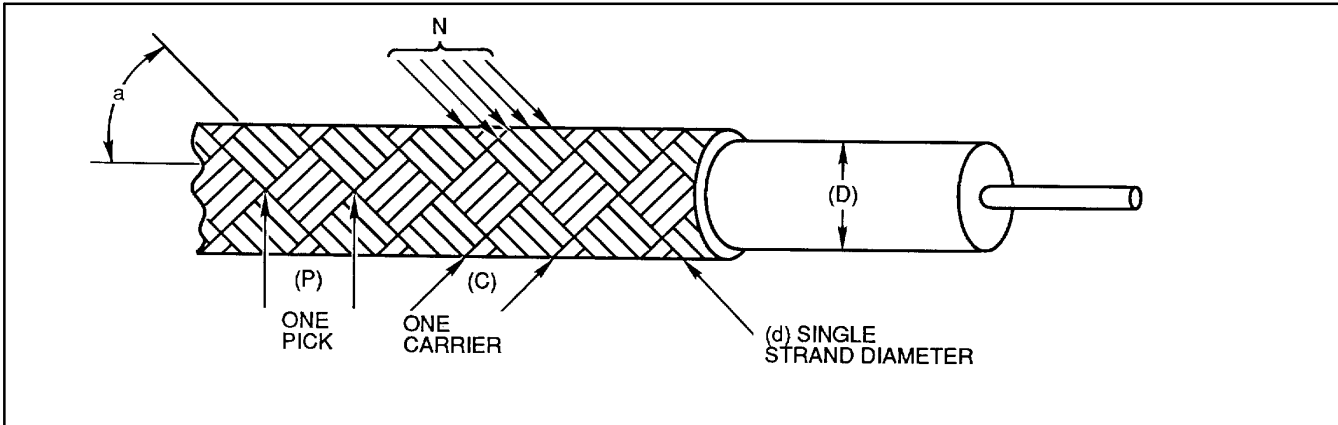

Figure 3. Shield-Constructional Details
25. **Number of Ends Per Carrier.** Generally four to seven are used per carrier. The number of ends effect attenuation and push back characteristics (Figure 3, Item N).
26. **Picks Per Inch.** These alter the braid angle (a) and are defined as the smaller of two angles formed by the shield strands and the axis of the cable (Figure 3, Item P).
28. **Diameter of Individual Shield Strands.** This can be located in individual specifications. Generally size 36 or 34 AWG is used but can be as small as 40 AWG or as large as 28 AWG depending upon intended use (Figure 3, Item D).
29. **Number of Carriers.** There are usually 16 to 24 carriers used but others may be added or deleted as necessary depending upon intended use (Figure 3, Item C).